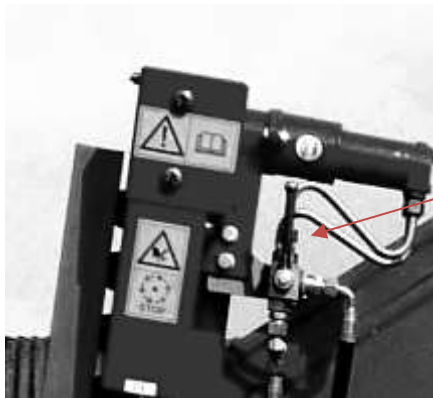

Fig.5
- Adjust the side knife switch valve (Z) into the vertical position (Fig.5).